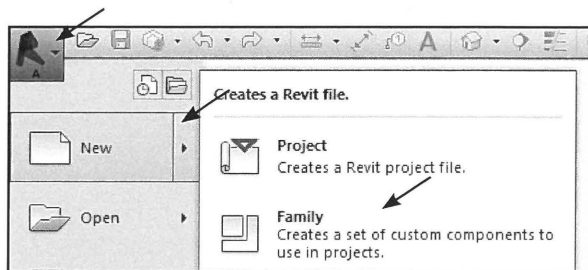

Fig. 03.01. Application Menu - New - Family.
- Klik *Application Menu*, pilen ud foran *New - Family* (Fig. 03.01).